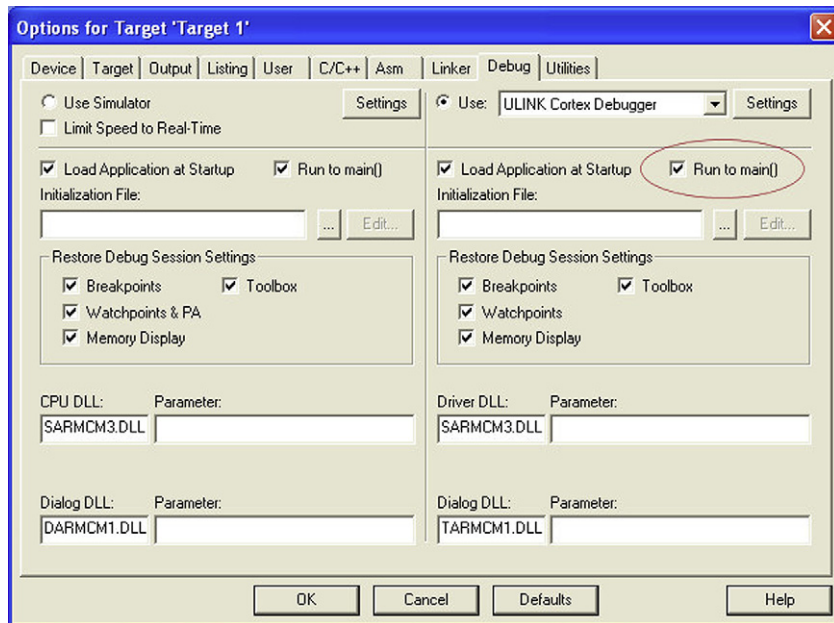

Figure 14.20:
- *Run to main.* This feature allows the processor to start program execution after reset and halt at “main(),” instead of halting at the beginning of the internal boot loader or startup code. This is done by checking the “Run to main” option in the project’s debug option as shown in Figure 14.20. However, if the program does not start properly, for example, because of an incorrect memory map configuration or incorrect stack size setup, you should disable this option so that you can debug the reset handler.